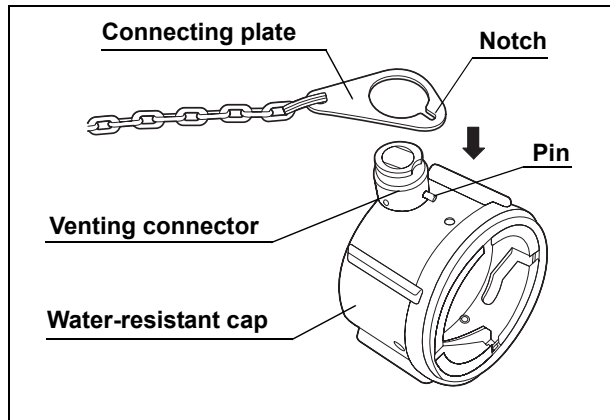

Figure 2.2
2. Align the notch on the connecting plate with the pin on the venting connector of the water-resistant cap (MH-553, see Figure 2.2).
3. Place the connecting plate over the venting connector (see Figure 2.2).